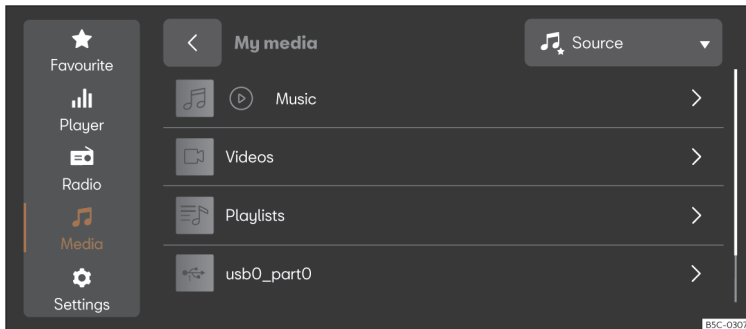

Fig. 181 Schematic representation: Media view
- Press **MENU** > > >>> **Fig. 181**.